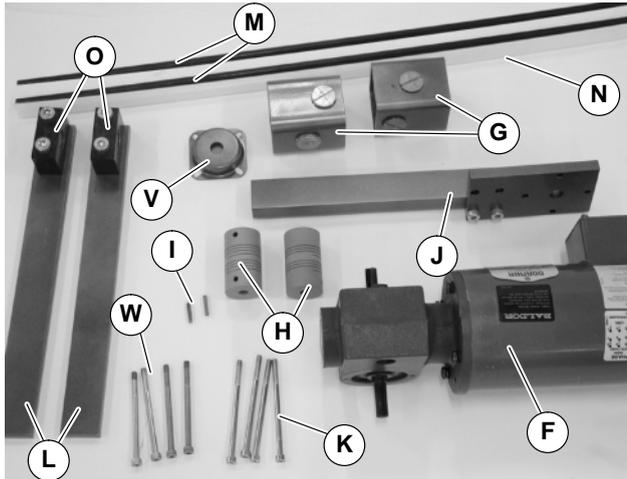
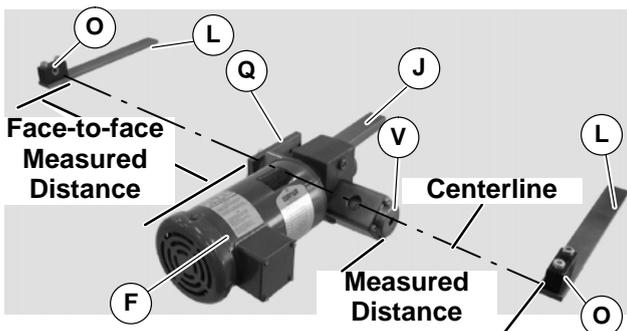

Figure 11
Figure 18
1. Gather components (Figure 11).
NOTE: Mounting holes are not provided. Ensure that gearmotor assembly (J of Figure 18) and bearing support assembly (L) are parallel and center-line of coupling matches center-line of bearing block (O).
- Attach gearmotor assembly (J of Figure 18) and bearing support assemblies (L) to mounting surface.
- Measure distances between motor mounting plate (Q) and bearing block (O) and from shaft cover (V) to bearing block (O).
- Cut hex shafts (M of Figure 11) to measured distances (Figure 18) plus 54 mm on both sides of gearmotor assembly.